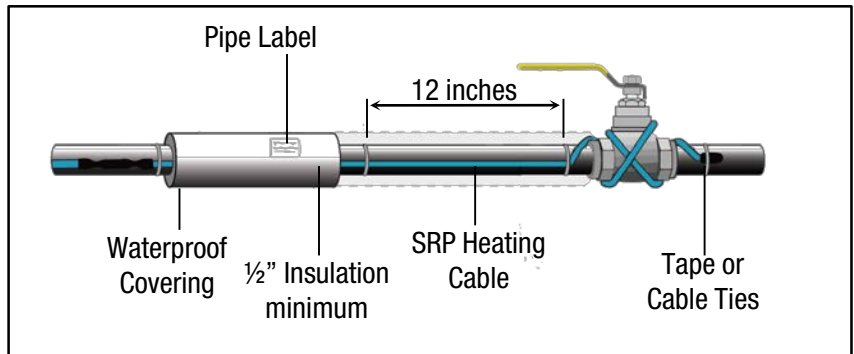

Figure 1: Straight Tracing
2. For straight tracing, install the heating cable on the lower half of the pipe; for example, in the 4 o'clock or 8 o'clock position as shown in Figure 1.